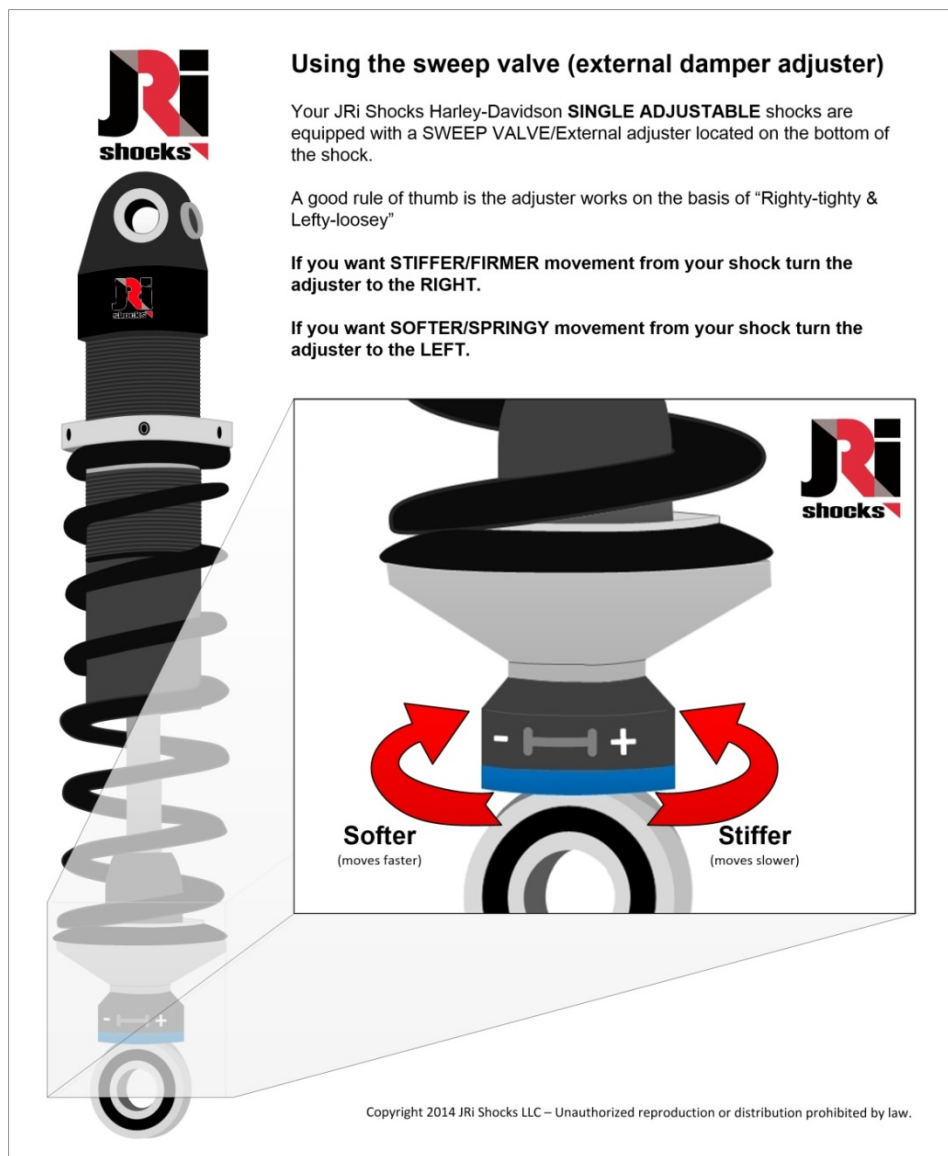

Figure 11 - Using the Sweep Valve
- a. Stiffen the rear suspension via the external damping adjuster 3 to 5 clicks at a time until the rear suspension stabilizes (Sweep Valve – **see figure 11**).
Conditions of the road can require very different damping characteristics. A dry road with a high level of available grip will allow you to tune in more damping loading the tire sooner. With that being said, a motorcycle with too much damping will have a harsh ride OR wheel spin and a overall lack of traction in exiting slow corners, and on heavy braking and initial turn in. It may also show a lack of grip on quick transitions back and forth. In a low grip situation like a wet road you would want to tune out damping and allow more chassis movement, (weight transfer) delays the loading of the tire. This can be done by decreasing the amount of damping via the external damping adjuster (sweep valve – **see figure 11**).